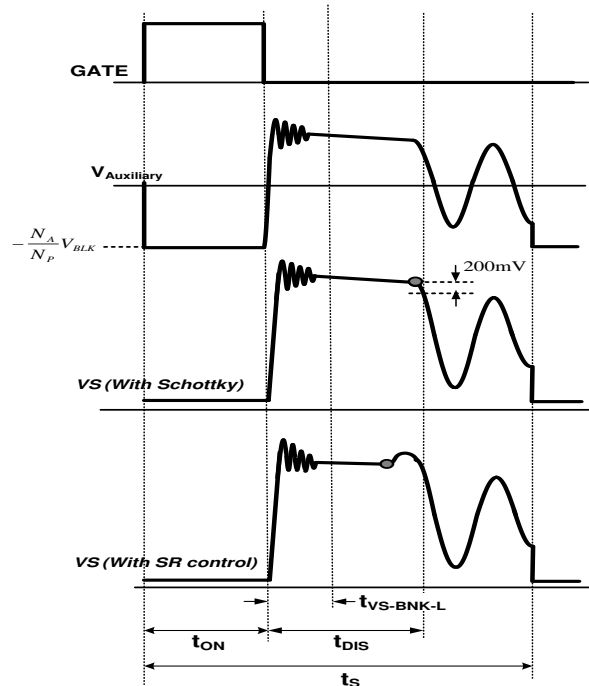

Figure 26. VS sampling with Diode or Synchronous Rectifier
VS voltage which is reflected auxiliary winding and proportional to output voltage. Therefore, It is possible to regulate output voltage by sensing VS voltage. Figure 26 shown VS sampling waveform with secondary rectifier that using Schottky diode or Synchronous Rectifier (SR).
In order to regulate output voltage in accurately range, FAN105B build-in VS sampling methodology for signal like Figure 26 showed, FAN105B samples and hold VS voltage
A leading edge blanking time ($t_{VS-BNK-H/L}$) start from primary switch turned off. Most of TA design have VS oscillation after primary switch turned off, that is caused by the resonance of leakage inductance and parasitic capacitance at transformer. In order to avoid VS sampling procedure get impacted by that ringing, the oscillation should be settle before settle down before $t_{VS-BNK-L}$ ended as Figure 26 showed. t_{DIS} is secondary rectifier current discharging time which recommend better design is longer than $t_{VS-BNK-H}$ during minimum on time controlling. t_{DIS} is predictable by following formula: